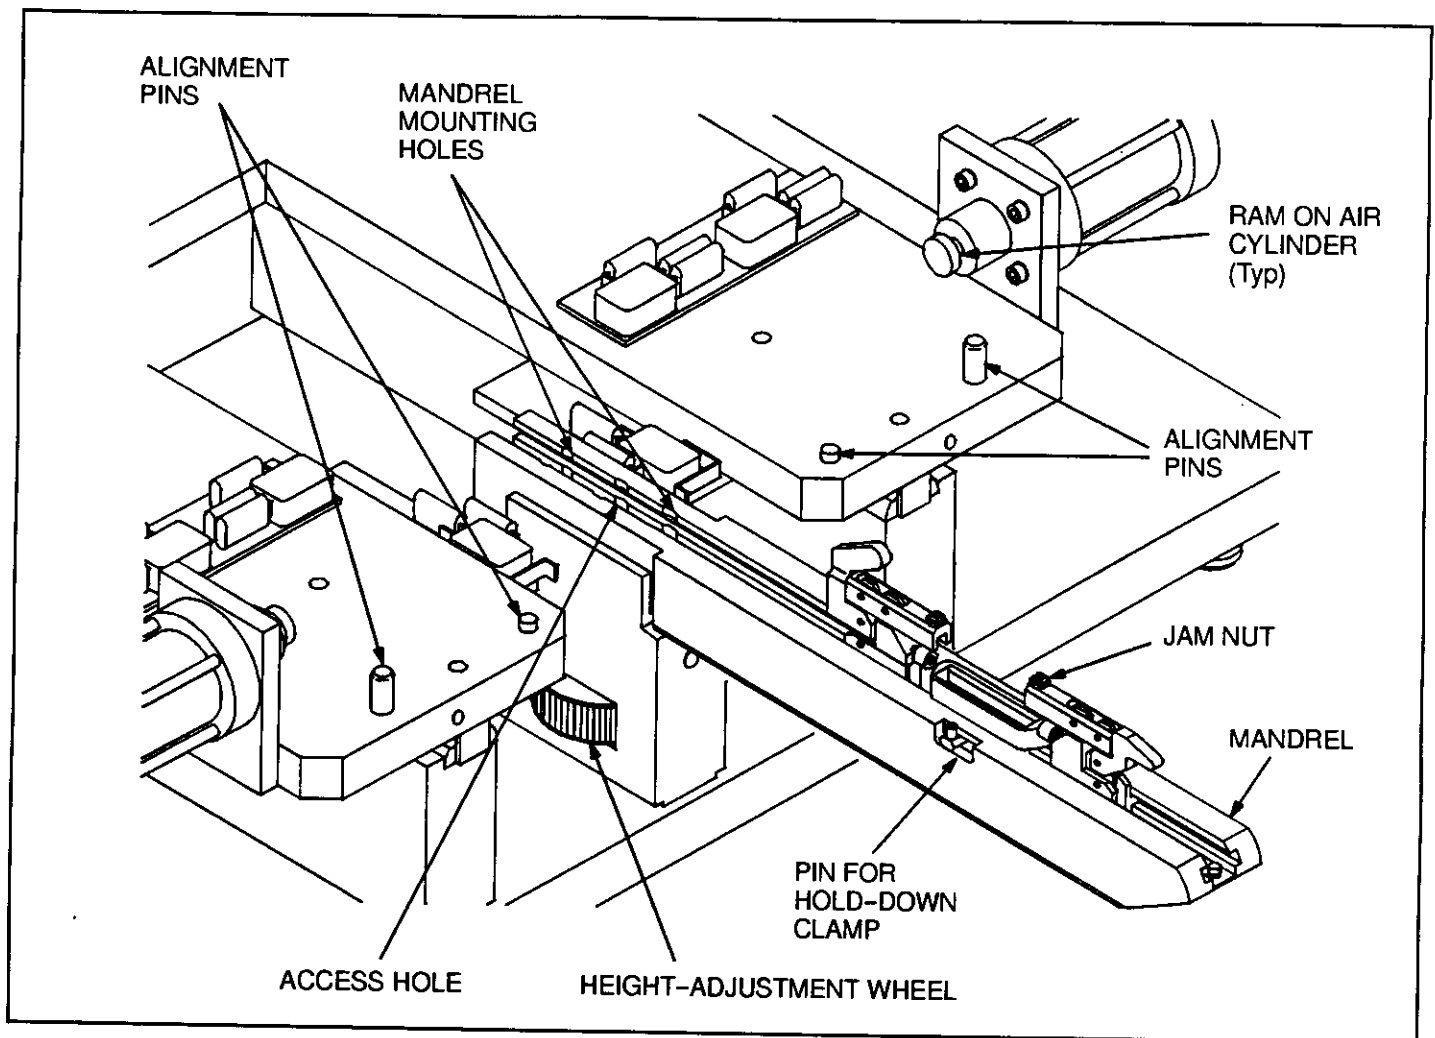

Fig. 2
The mandrel is held in place by two hex head cap screws. Refer to Figure 2. To install the mandrel, proceed as follows:
1. Make sure that the mounting screws are removed from the carriage surface, as shown in Figure 2.
1. Locate the locking screw, which is reached through an access hole in the back of the mandrel. Refer to Figure 2. Loosen the locking screw by turning the screw COUNTERCLOCKWISE with a 5/32-in. hex wrench.
1. Refer to Figure 2 and locate the pin and hold-down clamp for the fixture.
Each connector clamp can be adjusted to provide the desired clamping force on the connector and tie bar. To adjust the force, refer to Figure 2 and proceed as follows: